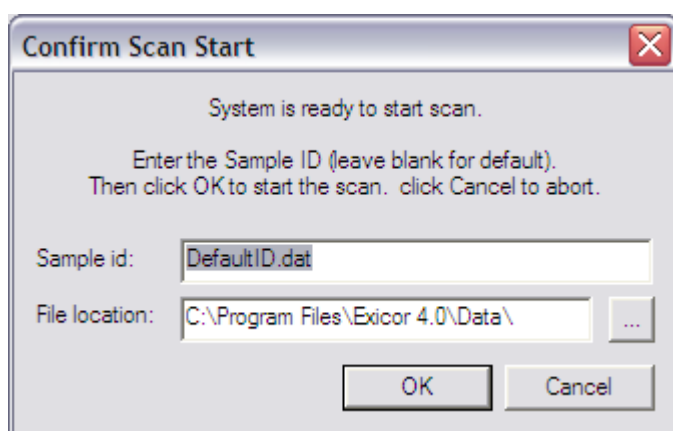

Figure 3.22 Confirm Scan Start
3. After the hardware is ready to scan, the Confirm Scan Start dialog box appears as shown in figure 3.22 on the following page. Enter the sample ID, or leave it blank for "DefaultID", as described later in this chapter. (You can save the data afterwards using a different sample ID.)